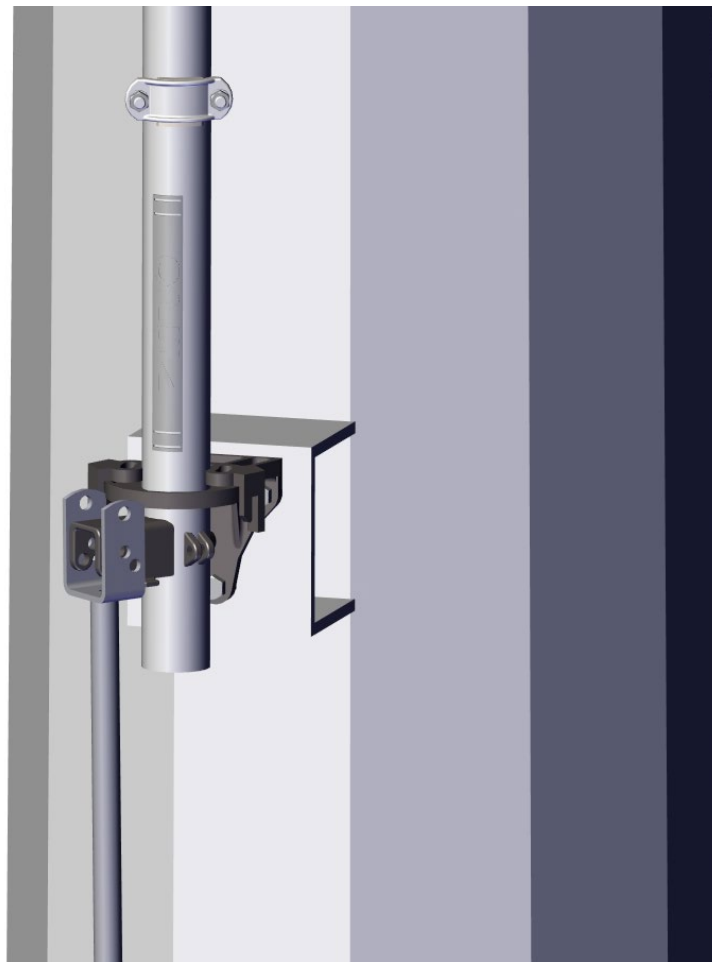

Figure 19: Typical Swing Handle
- i) When the switch is properly adjusted the handle should hang vertically and free in both the open and closed positions to permit the use of a customer supplied padlock. See Figure 19.